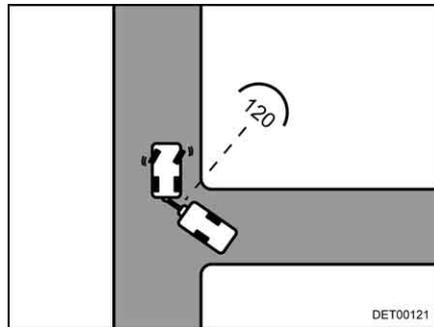

Fig. 14 Approach
- As soon as both vehicles are at an approximate angle of 120° to each other, come to a stop (Fig. 14).